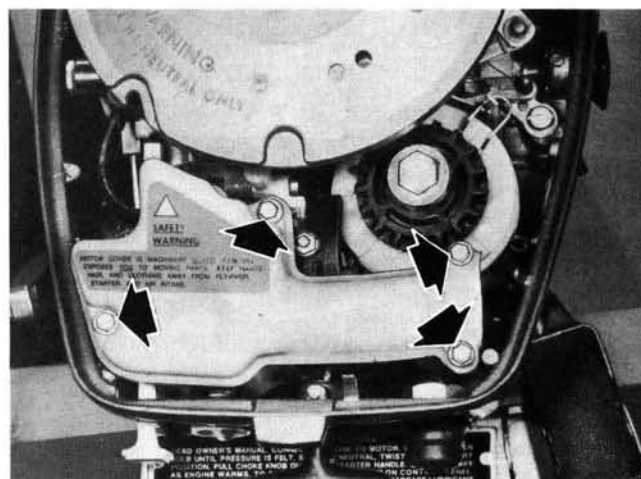
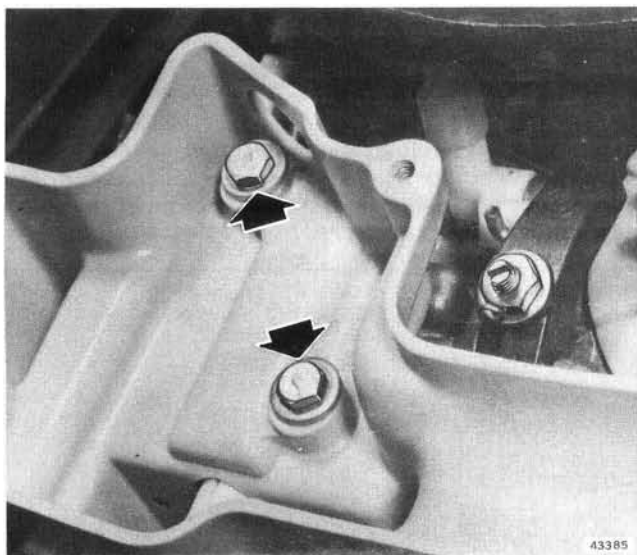

Figure 3-5. Air Silencer Cover Screws (Four)
Figure 3-6. Air Silencer Screws (Two)
- b. Remove air silencer cover. See Figure 3-5. Remove air silencer base from carburetor (2 screws). See Figure 3-6.